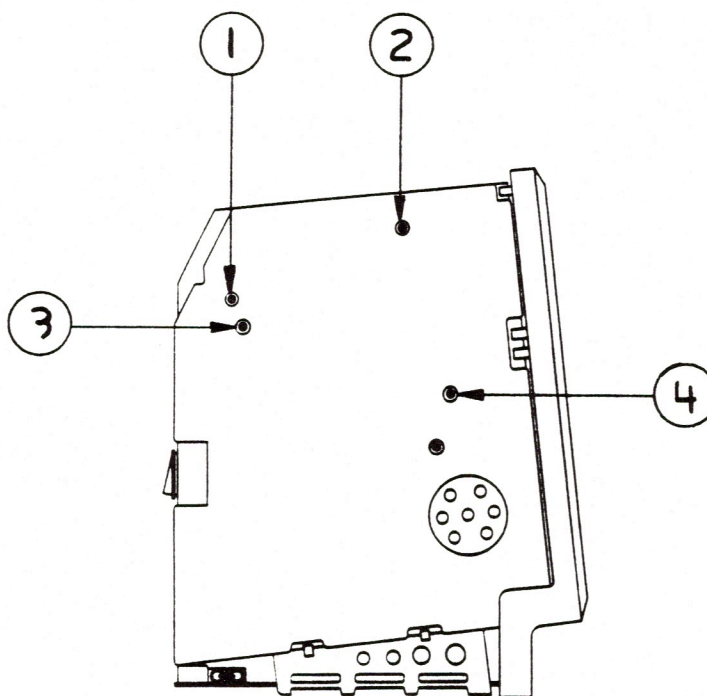

FIGURE 3
3. Adjust the brightness control (Figure 3, #1) with the alignment tool: turn it fully counterclockwise so that white lines are visible on the screen. Then turn it back in the opposite direction until the white lines just disappear.
5. Use the alignment tool to adjust the width (Figure 3, #2) until the picture is approximately 7 inches wide.
6. Use the alignment tool to adjust the height (Figure 3, #3) until the picture is approximately 4.7 inches high.
7. Turn the focus adjustment (Figure 3, #4) all the way clockwise until it doesn't turn anymore. Now turn it back in the opposite direction (counterclockwise) one-eighth of a turn. This setting gives the best overall sharpness at all points on the screen.